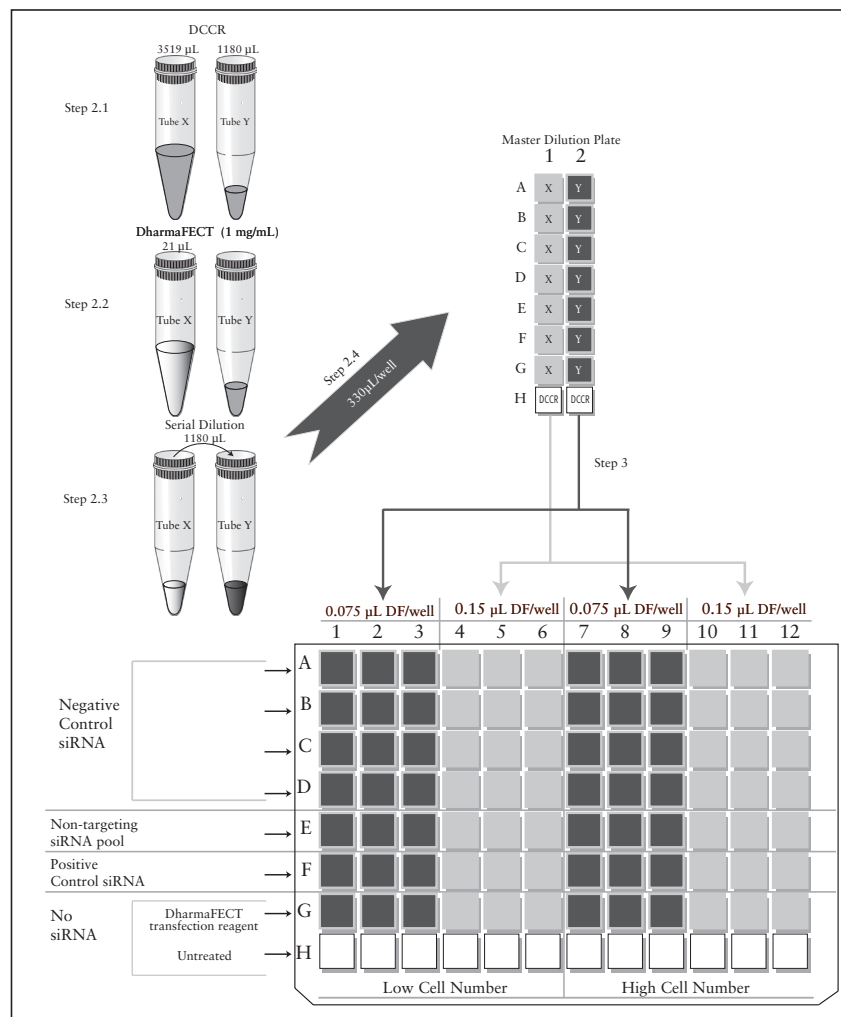

Figure 2. RTF Optimization Plate rehydration guide
The recommended experimental format for RTF Optimization Plates is shown in Figure 2. The DharmaFECT transfection reagent that has been predetermined to be optimum for the cells (from use in conventional transfection experiments) is tested at two volumes with two cell numbers. An alternate method could assess four DharmaFECT volumes with a single cell number per well.
The instructions below describe how to construct the plate format shown in Figure 2. All manipulations should be performed under sterile, RNase-free conditions. The final siRNA concentration during transfection is 50 nM when using this protocol.
2. Prepare the Rehydration Solution in two 15 mL tubes as described below and in Figure 2. Tube X will prepare reagent for a final volume of 0.15 uL DharmaFECT per well and Tube Y will prepare reagent for a final volume of 0.075 uL DharmaFECT per well.
3. Rehydrate wells of RTF Optimization Plate by transferring 25µL of DCCR or Rehydration Solution from the appropriate wells of the Master Dilution Plate as described below and in Figure 2.